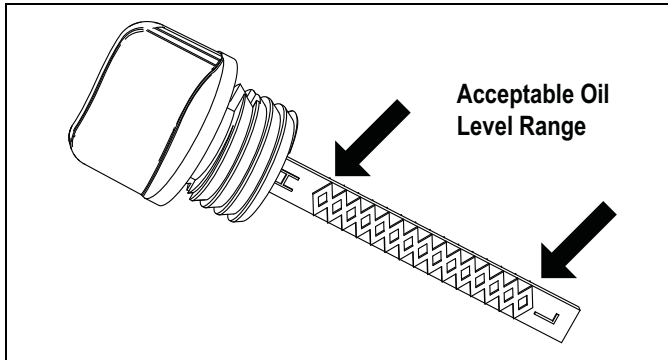

Figure 6-2. Dipstick
5. If level is low, fill until the oil level is between “L” and “H” on the dipstick (Figure 6-2).